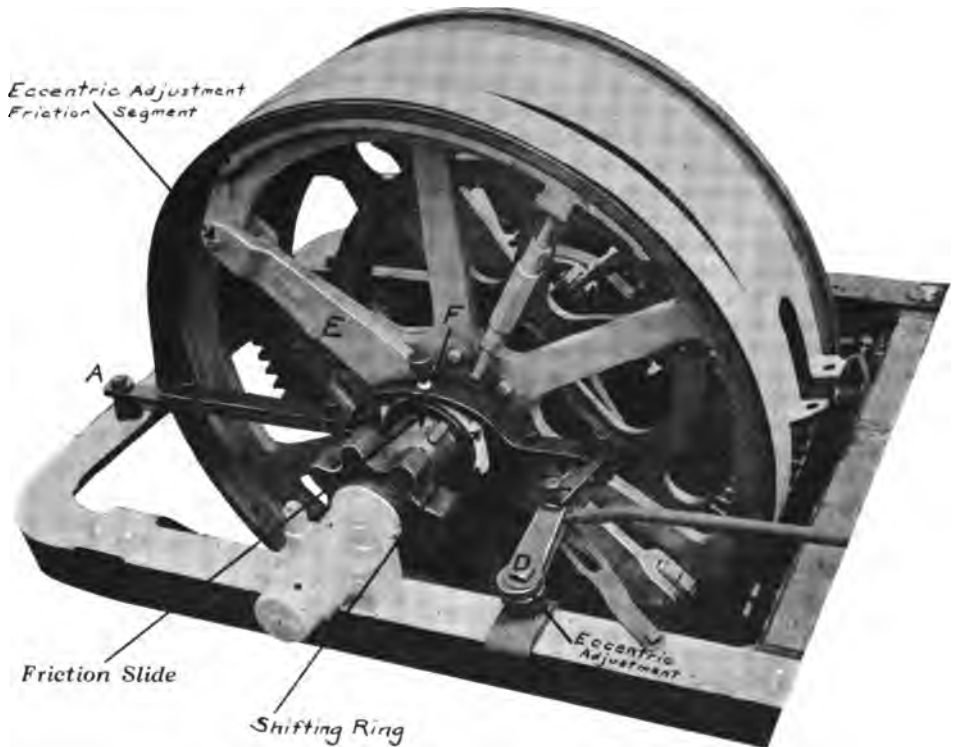

Fig. 44
- 247 — The shifting ring E2029 should last as long as the "Caterpillar," but it is the first member subjected to wear if the turnbuckle adjustment is made wrong. The shifting ring should "float" when the friction slide is thrown in with the shifting lever. Refer to Fig. 44.
In Fig. 44 you will notice the part called "eccentric adjustment."